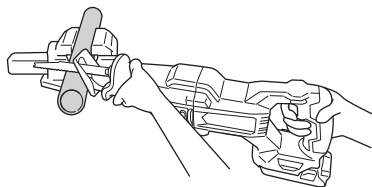

Fig. 19
- (1) Fasten a workpiece firmly before operation. (Fig. 19)